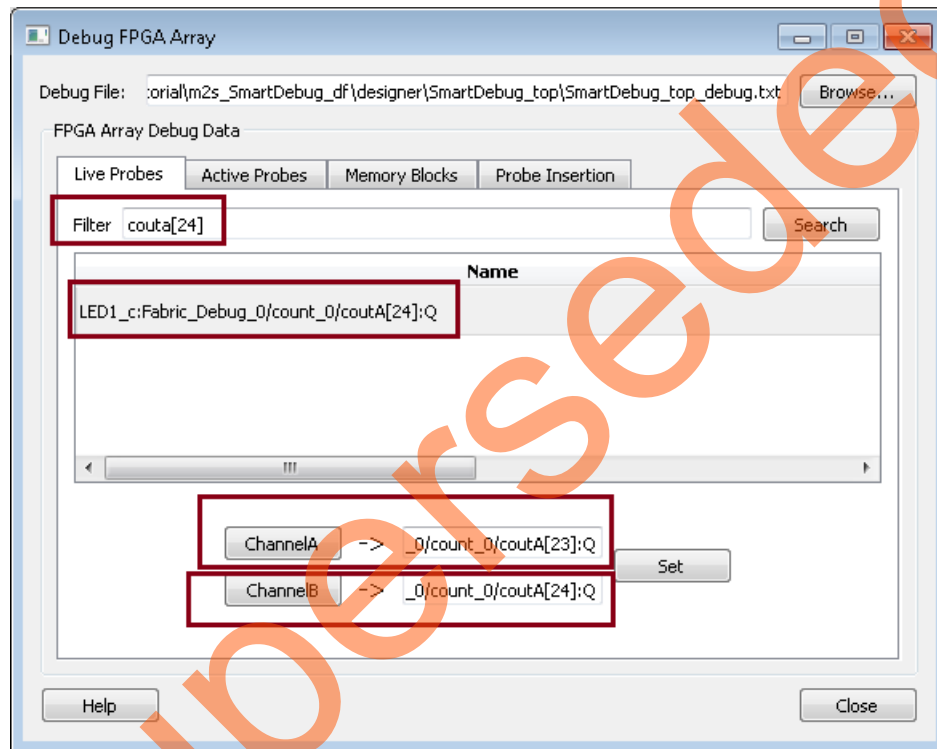

Figure 17 • Live Probes Channels Assignments
Figure 17 shows an example of setting two probe points: coutA[23]:Q and coutA[24]:Q to be probed on ChannelA and ChannelB respectively. The Live Probes tab shows the probe point name and pin type (SRAM, Logic, or I/O). When a probe point is selected, it can be assigned to either ChannelA (PROBE_A) or ChannelB (PROBE_B) as follows:
1. Select the point to be probed, as shown in Figure 17.